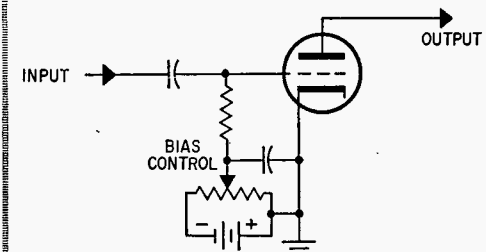

Fig. 4. Varying bias changes gain of vacuum tube.
**Bias Control.** The actual gain of an audio stage can be controlled by varying the negative bias on the grid of a remote-cutoff tube as shown in Fig. 4. (In this and other circuits a battery is shown for simplicity but the voltage source can be a rectifier or a voltage divider.) In Fig. 4 the gain of the tube is reduced by increasing the negative bias on its grid, and vice versa. This will work only when the tube has remote cut-off characteristics. A sharp cut-off tube would just cause distortion since it would start functioning as a plate detector when the bias is increased close to, or beyond, cut-off.